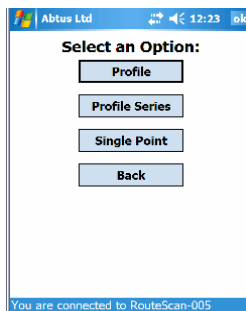

Figure 6
3. Select 'Profile' from the next menu (Figure 6) – note that it is also possible to add a series of Single Point measurements to a profile recording
2. Select 'Single Point' from the next menu (Figure 6)